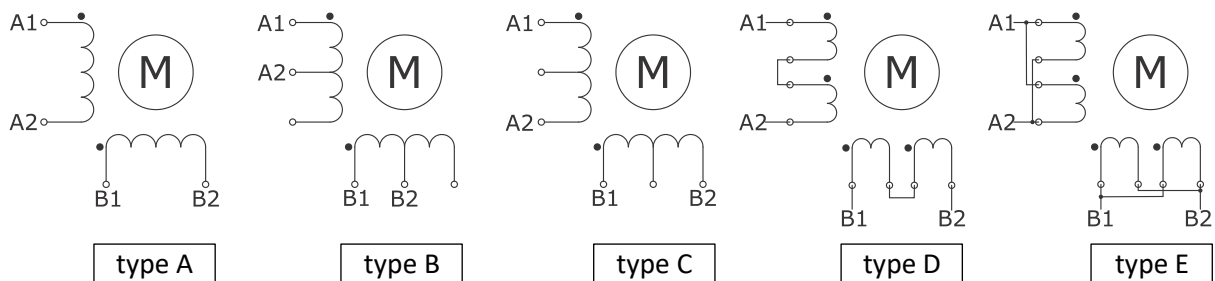

Figure 3: Stepper motor wiring options
2. Connect USB cable (1) to your PC and run PoStep user application
4. Connect step, direction, enable and GND from PoStep60 (2) to controller or BOB
5. Connect stepper motor (5) using one of wiring options bellow (Figure 3)
6. Connect power supply (4)